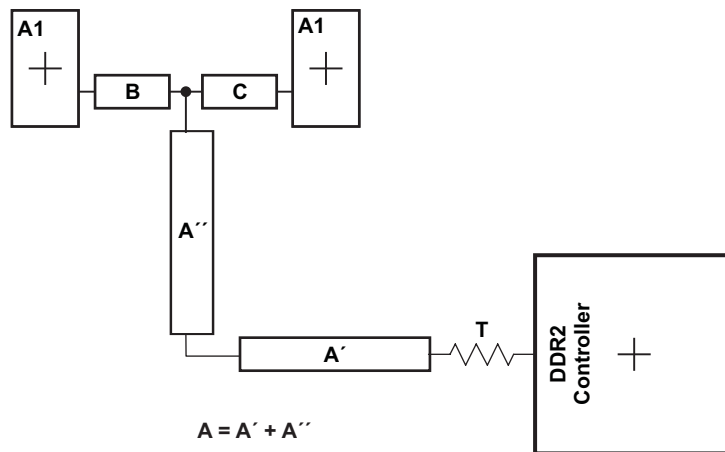

Figure 8-51. CK and ADDR_CTRL Routing and Topology
Figure 8-51 shows the topology of the routing for the CK and ADDR_CTRL net classes. The route is a balanced T as it is intended that the length of segments B and C be equal. In addition, the length of A (A'+A'') should be maximized.
- (1) The length of segment A=A'+A'' as shown in Figure 8-51.
- (2) Center-to-center spacing is allowed to fall to minimum (w) for up to 500 mils of routed length to accommodate BGA escape and routing congestion.
- (3) CACLM is the longest Manhattan distance of the CK and ADDR_CTRL net classes.